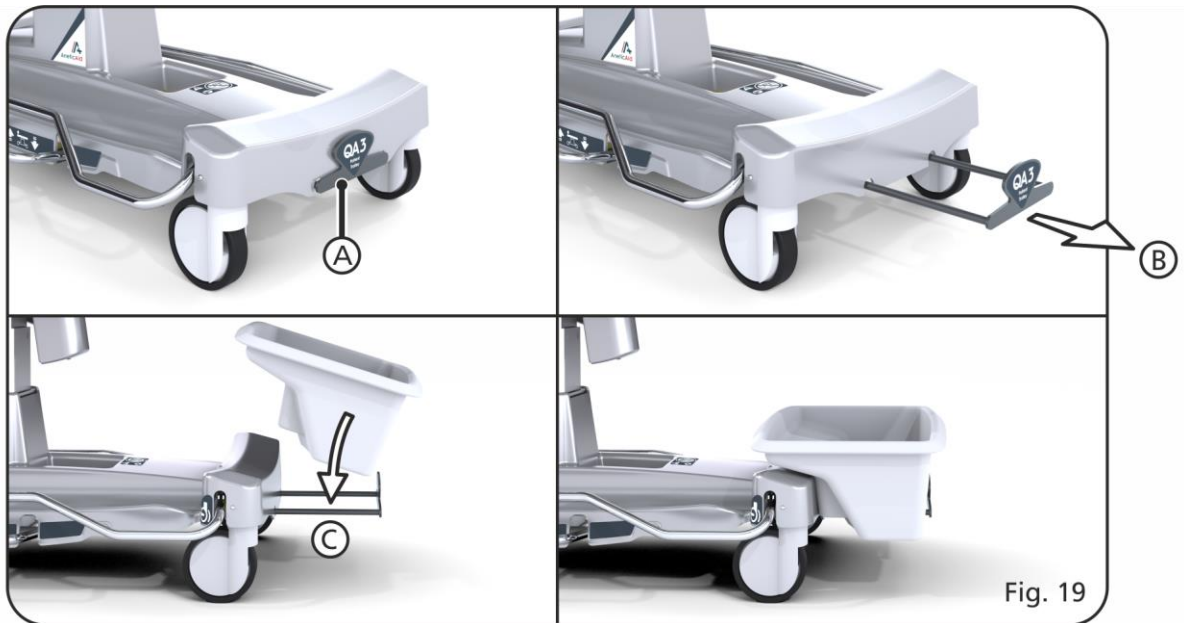

Fig. 19
As illustrated in Fig.19, the storage box is quickly, and simply, located onto the support arms (A). The support arms are slid out (B), and the storage box is placed on to the arms (C).